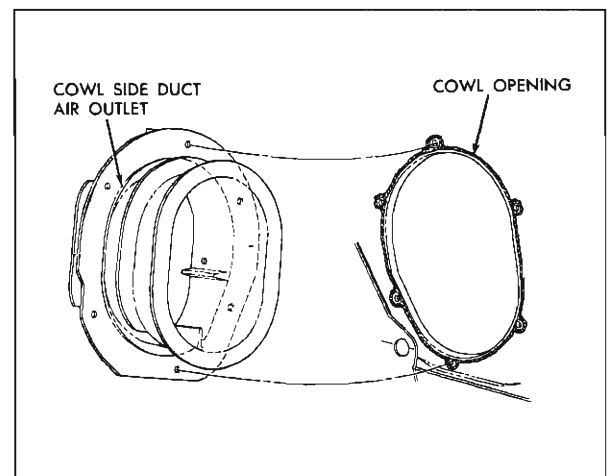

Fig. 11-28 Cowl Side Duct Air Outlet Sealing
3. To install, apply a bead of medium-bodied sealer to shroud panel at areas indicated in Fig. 11-28 and reverse removal procedure.